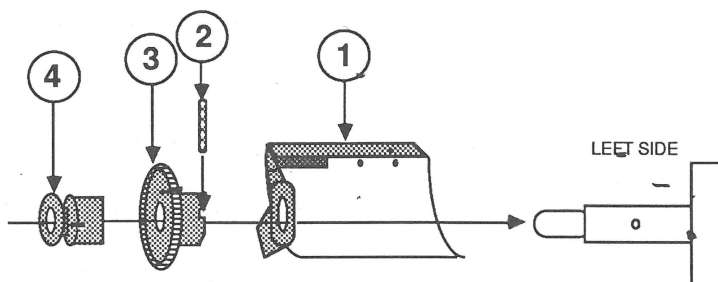

FIGURE 36
Note: There is no paper-empty frame (Figure 36, #1) when an optical paper-out sensor is installed.
1. Assemble the left side of the platen (Figure 36). Slide the paper-empty frame (Figure 36, #1) into place and insert the pin (Figure 36, #2). Slide the platen gear and then the platen bushing into place (Figure 36, #3 and #4).